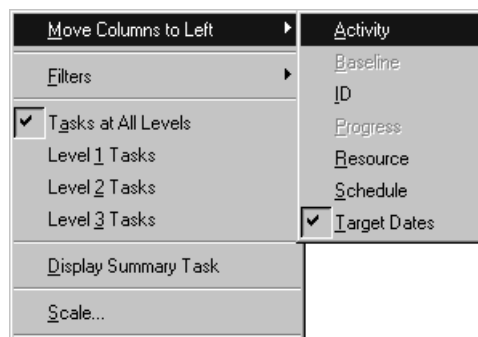

Figure 6.8. Move Columns Pull-down Menu
- Select “View” from the pull-down menu and then choose “Move Columns to Left” (see Figure 6.8). Choosing any of the available options moves the corresponding columns to the leftmost portion of the Table View.
Scroll to columns named Target Date and Target Type. Enter one of either SGE, SLE, MS, MF, FGE or FLE in the Target Type column. You can either type the values or select them from the pop-up menu displayed by pressing the right mouse button in the Target Type column (see Figure 6.9). Enter the appropriate date in the Target Date column. You can also view these columns by selecting View->Move Columns to Left->Target Dates from the pull-down menu (Figure 6.8). You can also change an activity's alignment constraints in the Gantt View.